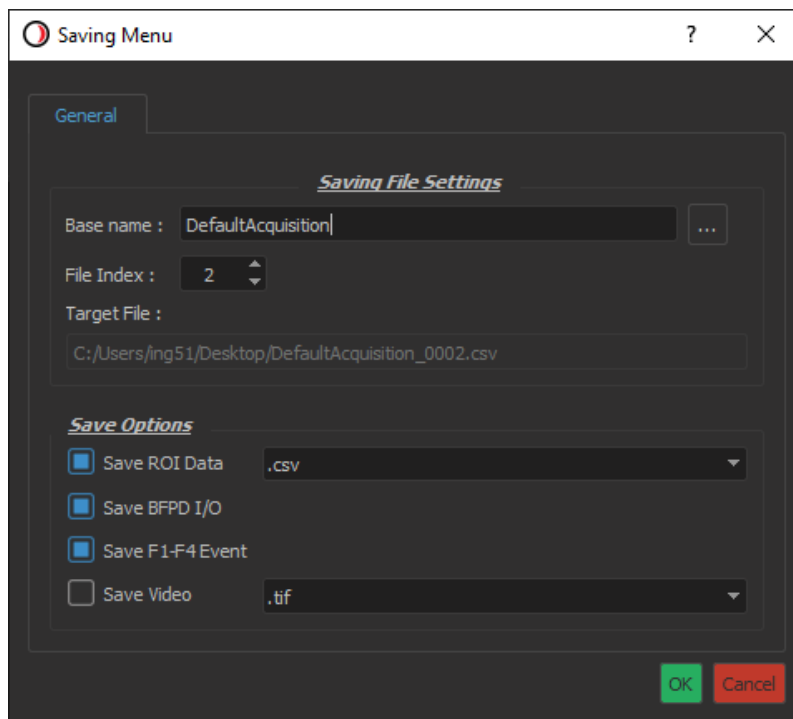

Figure 4.8: Saving Menu tab
4. **Saving Options** : The Saving Options button opens the **Saving Menu** window (fig:4.8).